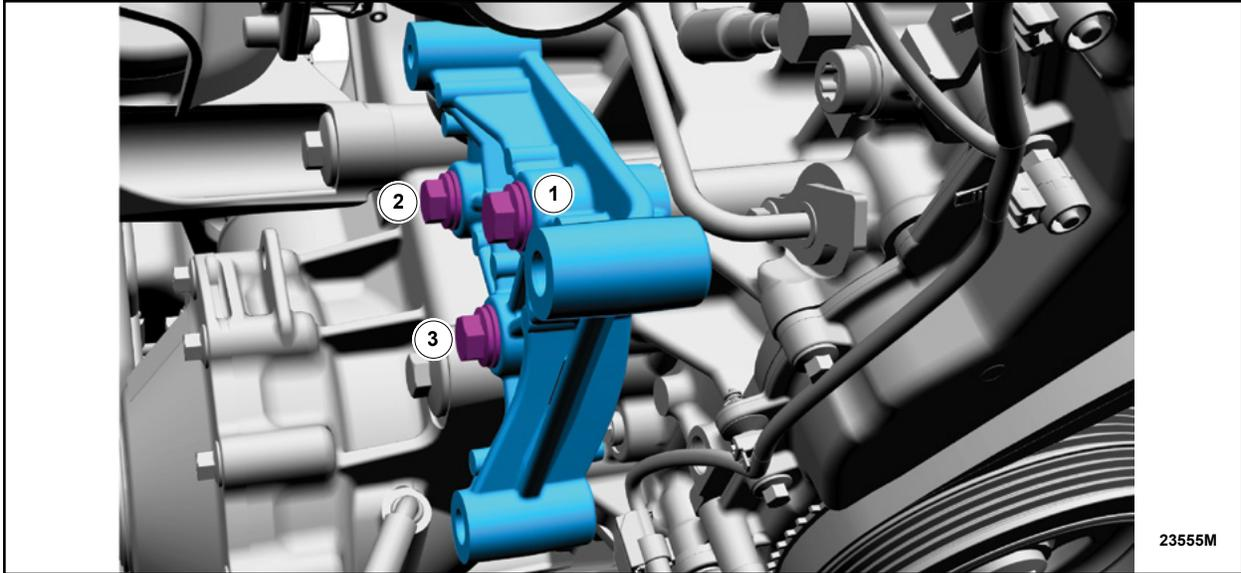

FIGURE 14
15. Install the A/C compressor mounting bracket, then install and tighten the bolts in the sequence shown. See Figure 14.